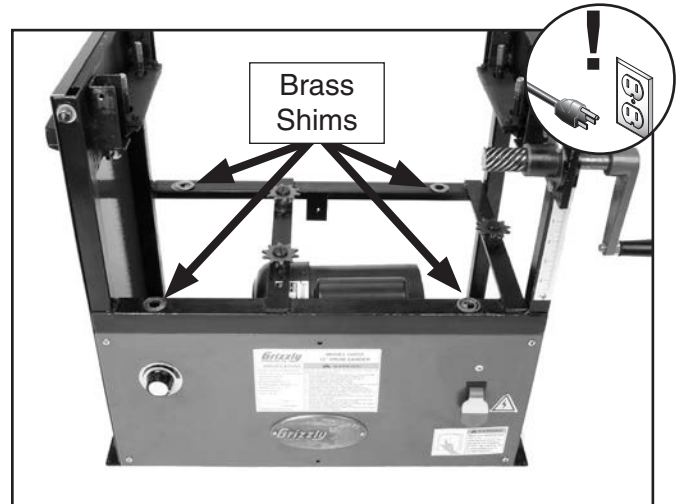

Figure 48. Brass shims.
*Before removing the table, note the number and location of brass shims (**Figure 48**) under the table lift screws. Knowing their correct position will help you align the conveyor table during reassembly.*